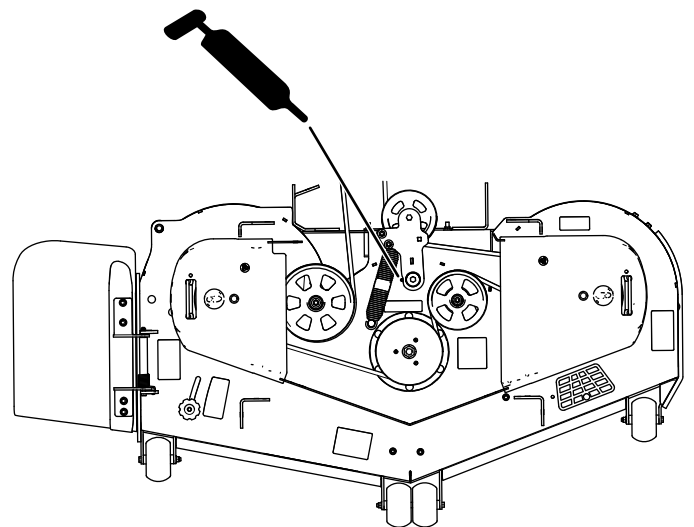
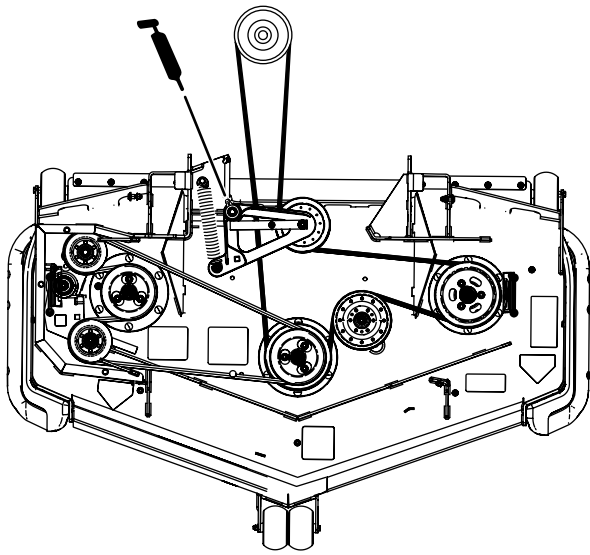

Figure 46
Figure 47
3. Grease the mower deck idler-pulley pivot until grease comes out the bottom (Figure 46 or Figure 47).